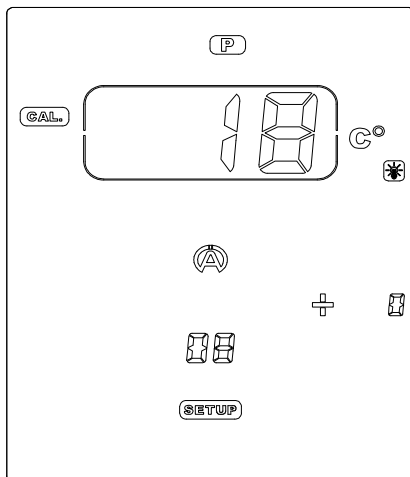

Figure 23
- 2) Press the central button **Ok** to calibrate the sensor of pressure and to leave the menu (figure 23).
- 2) Connect the sensor of temperature (figure 23).